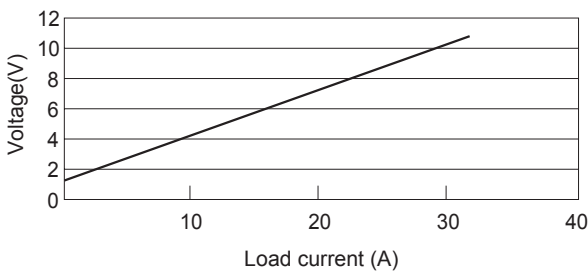

Fig.2.4 Load current conversion graph (ADA600F-24)
■ It is possible to monitor load current by measuring CB voltage that is between CB terminal and -V terminal. The relation between CB voltage and load current is shown in Figs.2.4 to 2.6.
Note : Figs.2.4 to 2.6 are references, and are not meant to be taken as guaranteed values.